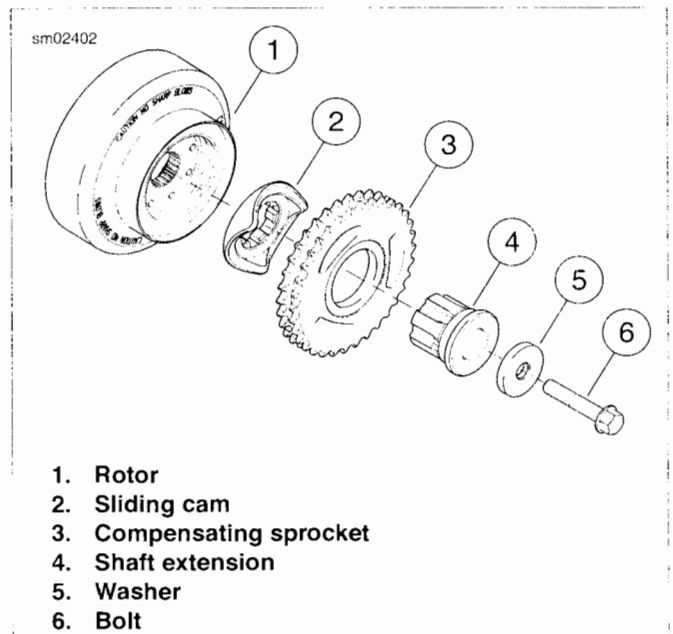

Figure 5-11. Compensating Sprocket: All But FXCWC
1. **All but FXCWC:** see Figure 5-11. Install compensating sprocket assembly.
- a. Apply a thin layer of primary chaincase oil to the inner diameter of the compensating sprocket (3), the outside of the splines of shaft extension (4) and the bearing surface of the shaft extension. Assemble shaft extension, compensating sprocket and sliding cam (2). Place primary chain over compensating sprocket assembly.
- c. Install **new** bolt (6) and washer (5) hand tight.